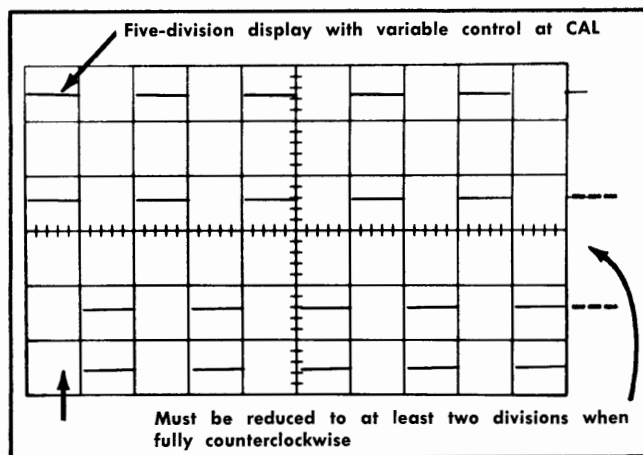

Fig. 5-14. Typical CRT display showing adequate Channel 1 and 2 VARIABLE control range (double exposure).
c. CHECK—Turn the Channel 1 VARIABLE VOLTS/DIV control fully counterclockwise. Display should be reduced to two divisions or less (see Fig. 5-14). Channel 1 UNCAL light must be on when Channel 1 VARIABLE control is not in CAL position.
e. CHECK—Turn the Channel 2 VARIABLE VOLTS/DIV control fully counterclockwise. Display should be reduced to two divisions or less (see Fig. 5-14). Channel 2 UNCAL light must be on when Channel 2 VARIABLE control is not in CAL position.